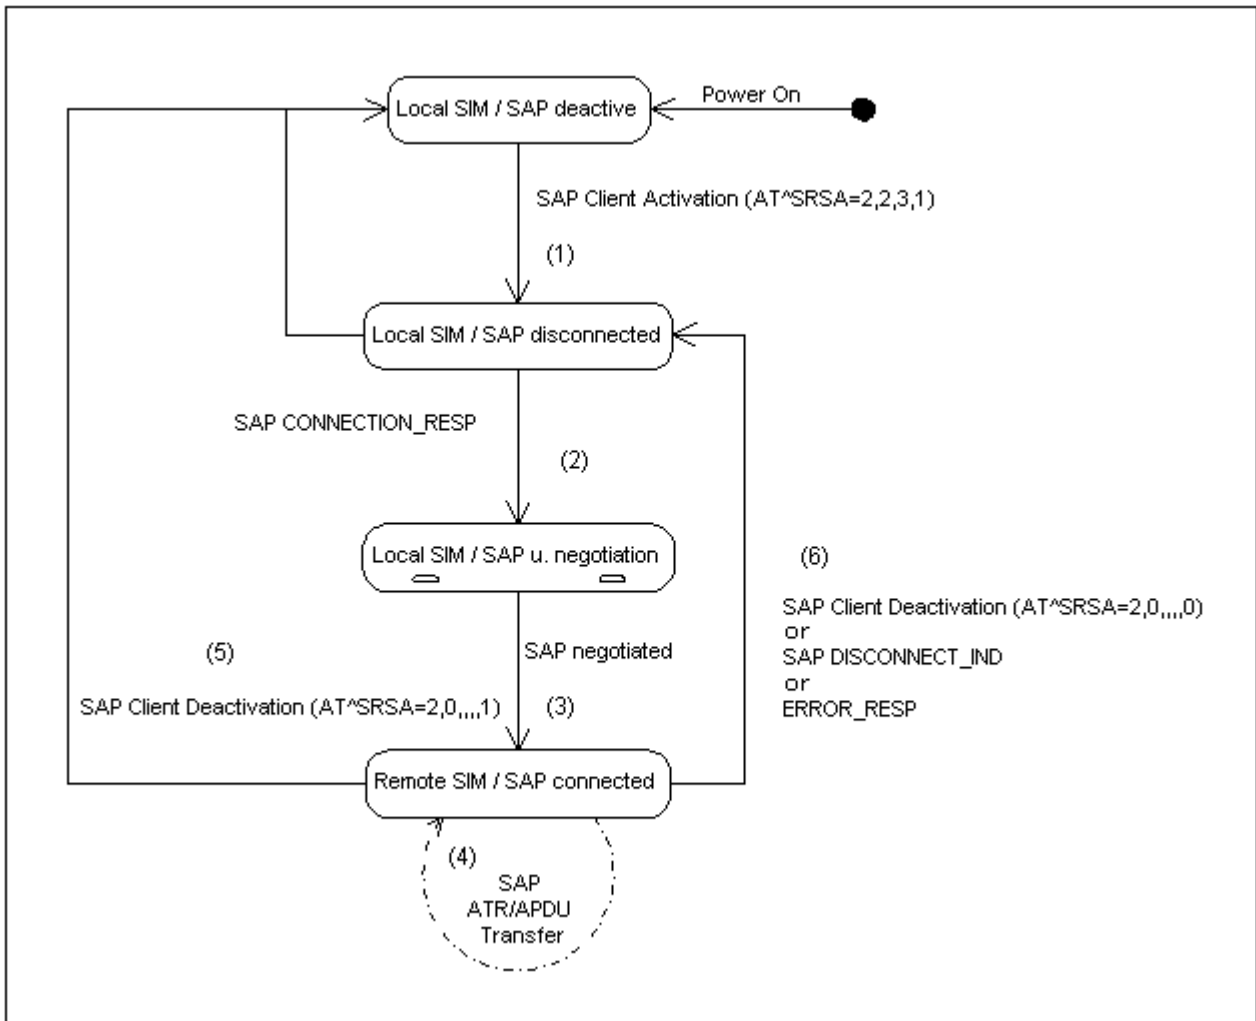

Figure 15.3: SIM usage states of SAP client
The SIM Access Client is connected via a serial link to the SIM Access Server. The client accesses and controls the SIM inside the Server via the serial link. Typical examples of a server are a simple SIM card holder or a portable phone in the car environment. A typical example of a client is a car phone, which uses a SIM card in the server for a connection to the cellular network. With the additional AT Commands it is possible to switch the TC63 to use an external SIM instead of the physically attached (local) SIM during runtime. After SAP server activation (see (1) in Figure 15.3, SIM usage states of SAP client) the ME waits for the SAP message CONNECTION_REQ. The server will use its local SIM until the parameter negotiation has been accomplished successfully.